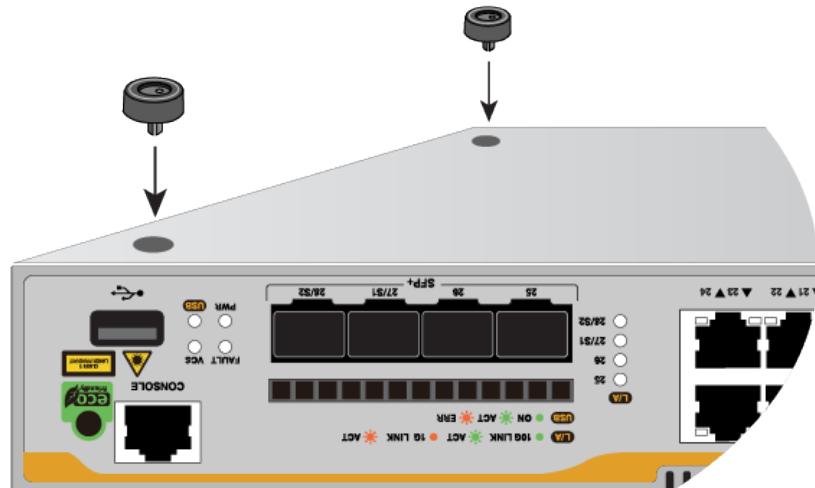

Figure 14. Placing the Bumper Foot Units on Base Corner Holes
4. Place a rivet housing and bumper foot unit onto a hole at each corner shown in Figure 14. The switch has four holes.